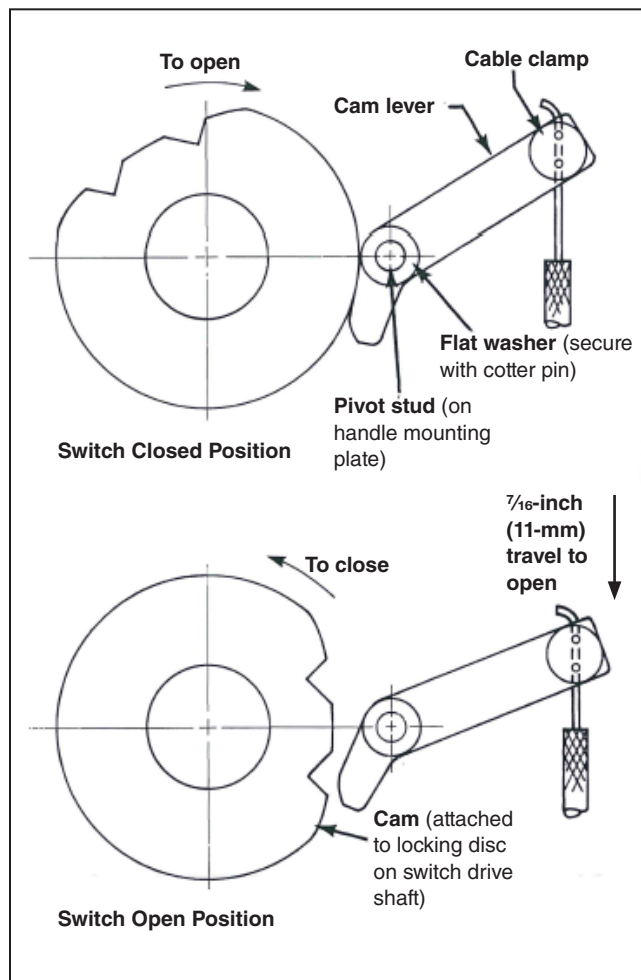

Figure 10. Cam-lever relationship for direct-coupled handle.
- (b) Place the cam lever on the pivot stud located on the inside of the handle mounting plate. Position the lever so its short leg is pointed in the direction of opening rotation. Secure the cam lever with the flat washer and cotter pin. See Figure 10 on page 21